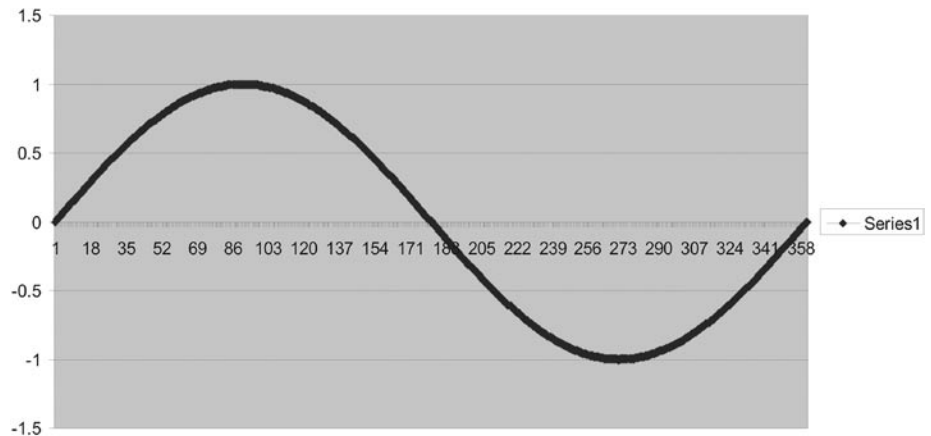

FIGURE 4.14
9. In Chart type, click on Line, and then click Finish. It will create a graphic of your sinewave, as shown in Figure 4.14.